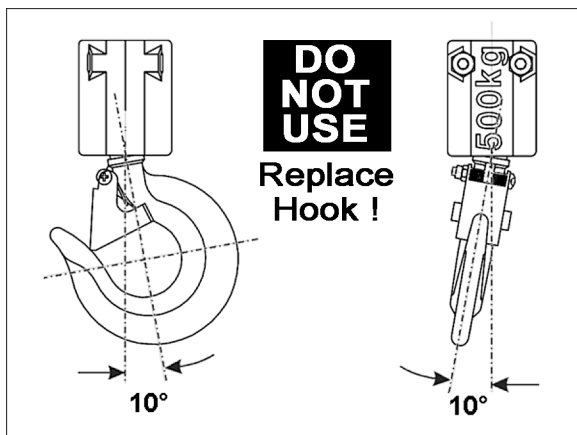

Figure 7
2. The vertical angle at neck of the hook reaches  $10^\circ$  (see Figure 7).